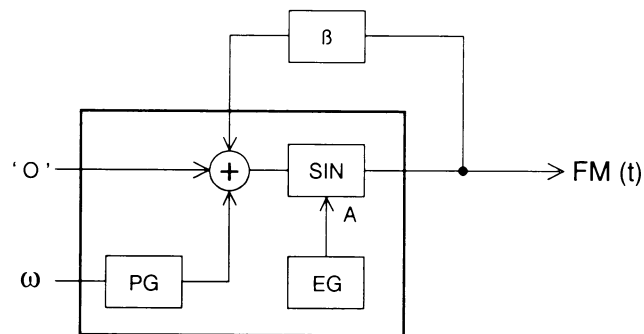

Fig. 1-2 Feedback FM System
A system called “feedback FM” is available to generate a wider range of sounds. This system modulates itself as shown in Fig. 1-2. It is represented by Eq. (3).